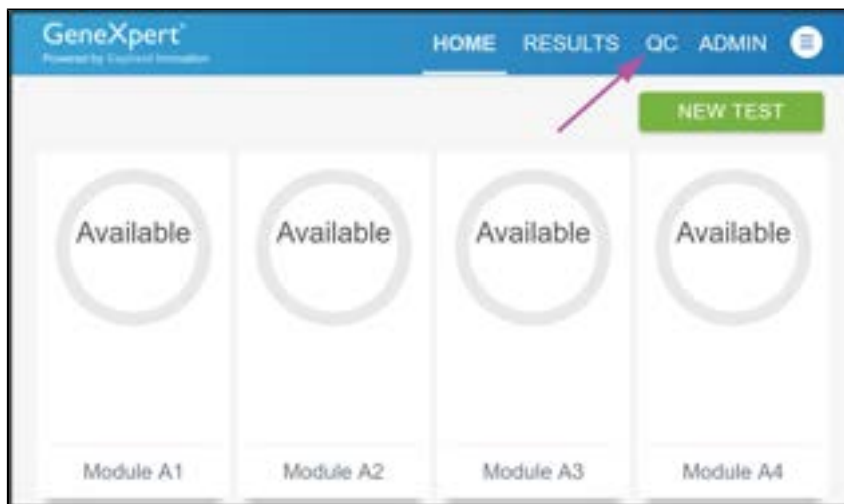

Figure 12. Home Screen
3. On the home screen or the Test Running screen, touch **QC** (see Figure 12).